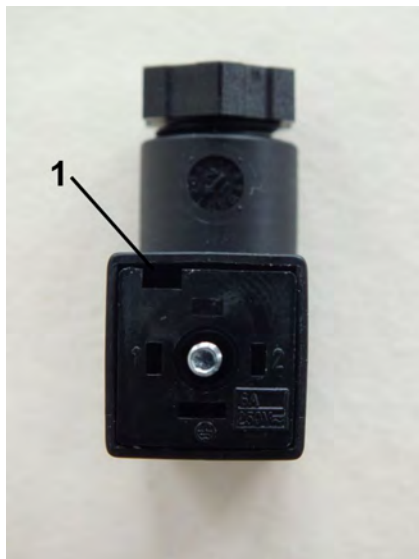

Fig. 23: Loosen inner section
3. ➤ Remove the inner section from the socket by inserting a flat-bladed screwdriver into the slot (Fig. 23/1) and carefully pry out the inner section.
- 7.** Place the inner section (Fig. 23) back into the socket and push until it locks on